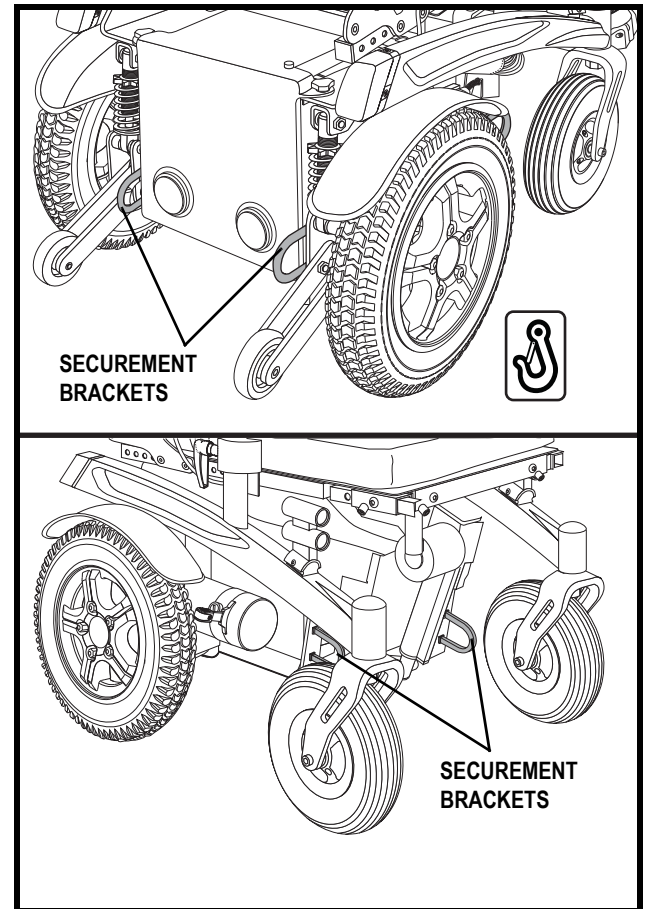

Figure 9. Transit System Securement Brackets
- Attach the four tie-down straps only to designated, labeled transit securement points indicated by anchor symbols on the power chair. See figures 9 and 10. Tighten the straps to sufficiently remove all slack.